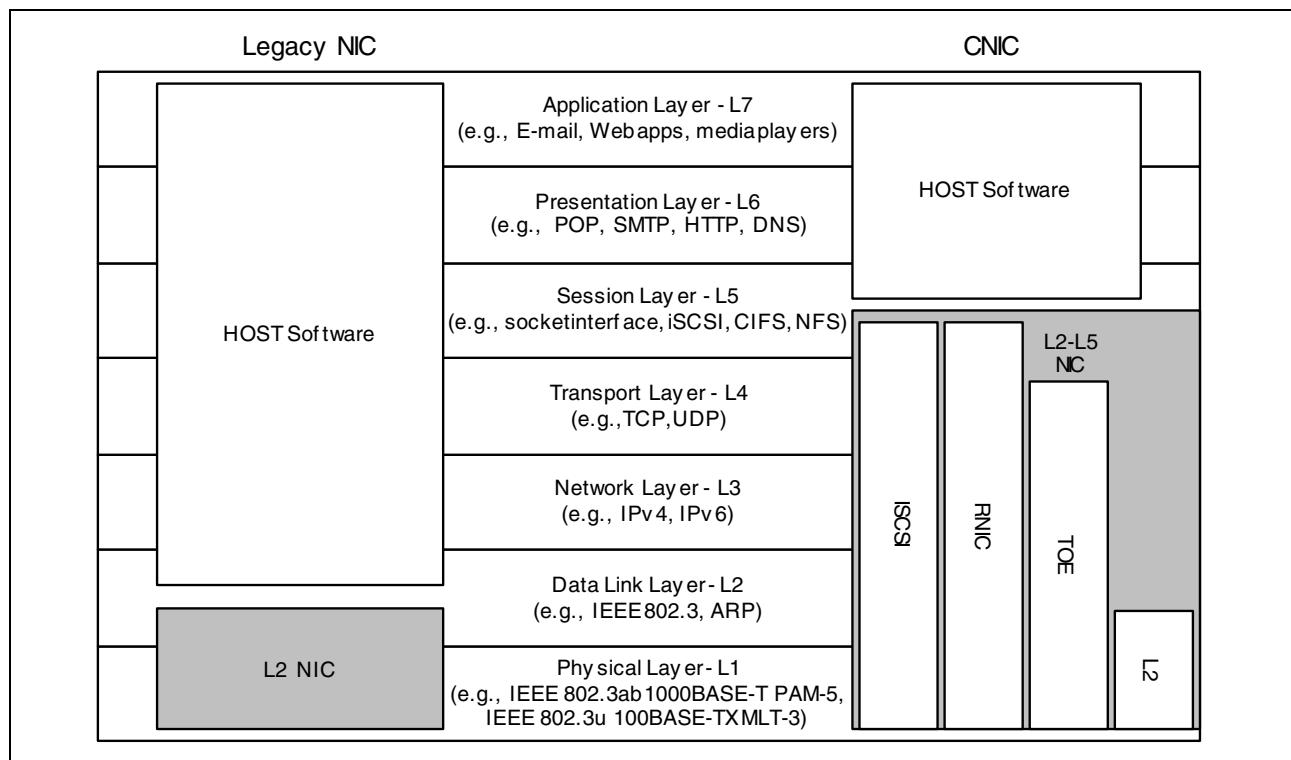

Figure 4: Layer Comparison Between Standard NIC and a TCP/IP Offload NIC
The Broadcom NetXtreme II is a revolutionary Gigabit Ethernet controller that provides unprecedented functionality integrated in a network controller: full featured 10/100/1000BASE-T Gigabit Ethernet controller, TCP-offload engine (TOE), iSCSI controller, and RDMA NIC (RNIC). It raises the ante on gigabit controllers from a layer 2 device (see ISO/OSI 7 layer model comparison in Figure 4) to a layer 4 and layer 5 device integrated with a standard Gigabit Ethernet controller. It is the first Convergence NIC (CNIC) product paving the road for convergence of networking, storage, and clustering on an Internet Protocol (IP) infrastructure.